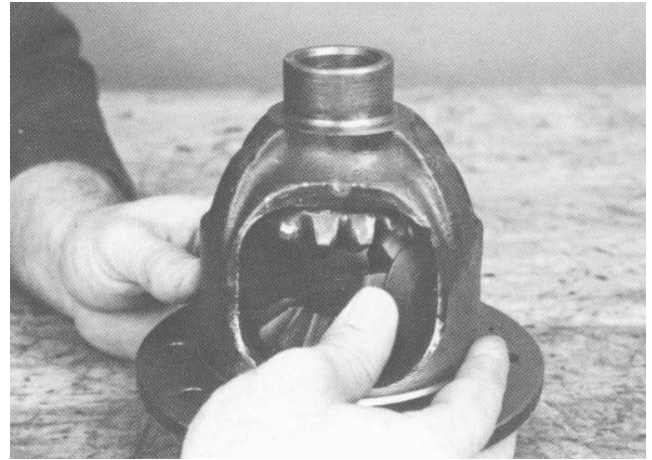

Figure 47
13. Place the differential case in a vise as shown (Fig. 47). Apply grease to new side gear thrust washers and hubs of the side gears. Apply grease to new pinion mate spherical washers and pinion mate gears. Place the side gears and thrust washers in the case. Install the pinion gears while holding the side gears in place.